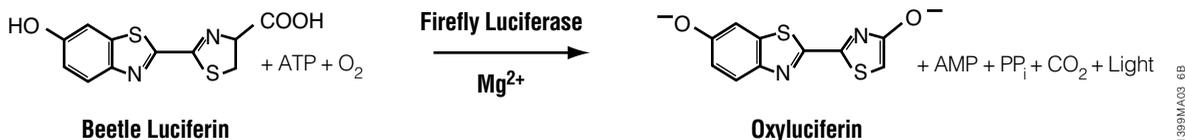

Figure 1. The luciferase reaction. Mono-oxygenation of luciferin is catalyzed by luciferase in the presence of magnesium, ATP and molecular oxygen.
Firefly luciferase is a 61kDa monomer that catalyzes the mono-oxygenation of beetle luciferin (Figure 1). Beetle luciferin is a relatively stable molecule found only in luminous beetles (including fireflies). The enzyme uses ATP as a co-factor although most of the energy for photon production comes from molecular oxygen. The quantum yield is about 0.9, the highest of any known luminescent reaction (5). The gene encoding firefly luciferase (*luc*) is a cDNA clone that has been incorporated into a number of reporter vectors (see Section 4).